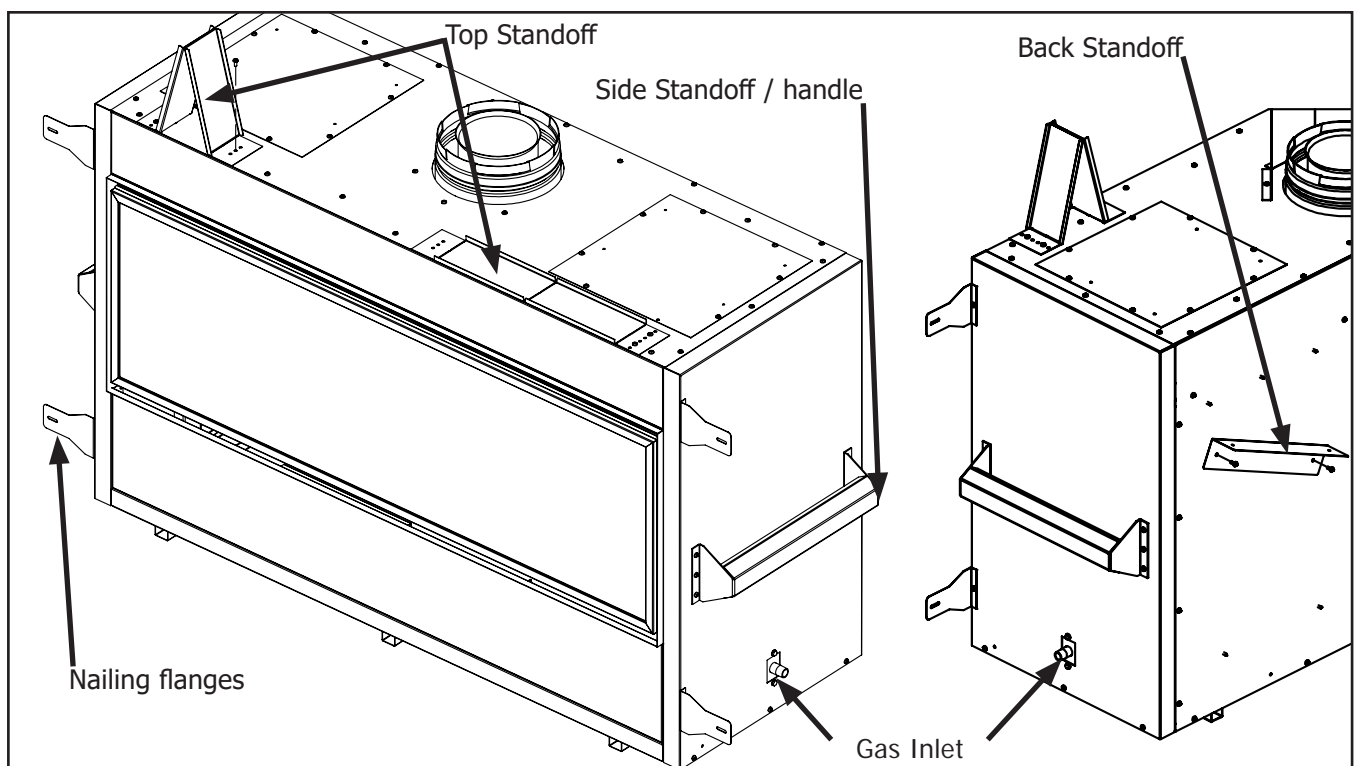

Figure 26: Fireplace Install Preparation
Take a minute to familiarize yourself with Figure 26 below.
- The top framing standoffs will need to be folded up and secured on one side with a T-20 screw, This can be seen in Figure 26.